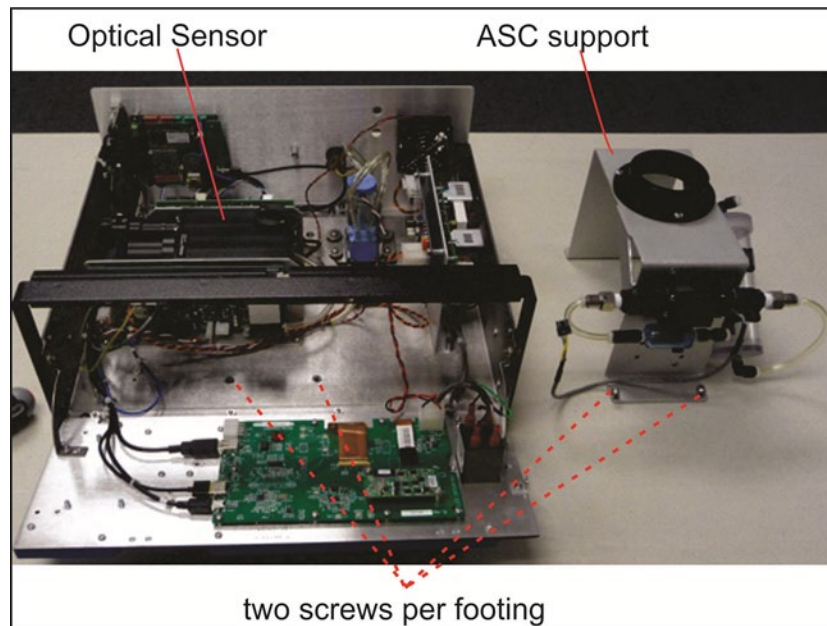

Figure 7. Maintenance: Optical Chamber and RH/T Sensor Access
12. Remove the ASC support, which straddles the sensors. Four screws secure that support to the floor of the instrument, two on each footing (Figure 7). Note: it's possible to clean the optics without removing the ASC support; however, removing the ASC support will allow more room to access the tubing lines and optical chamber.